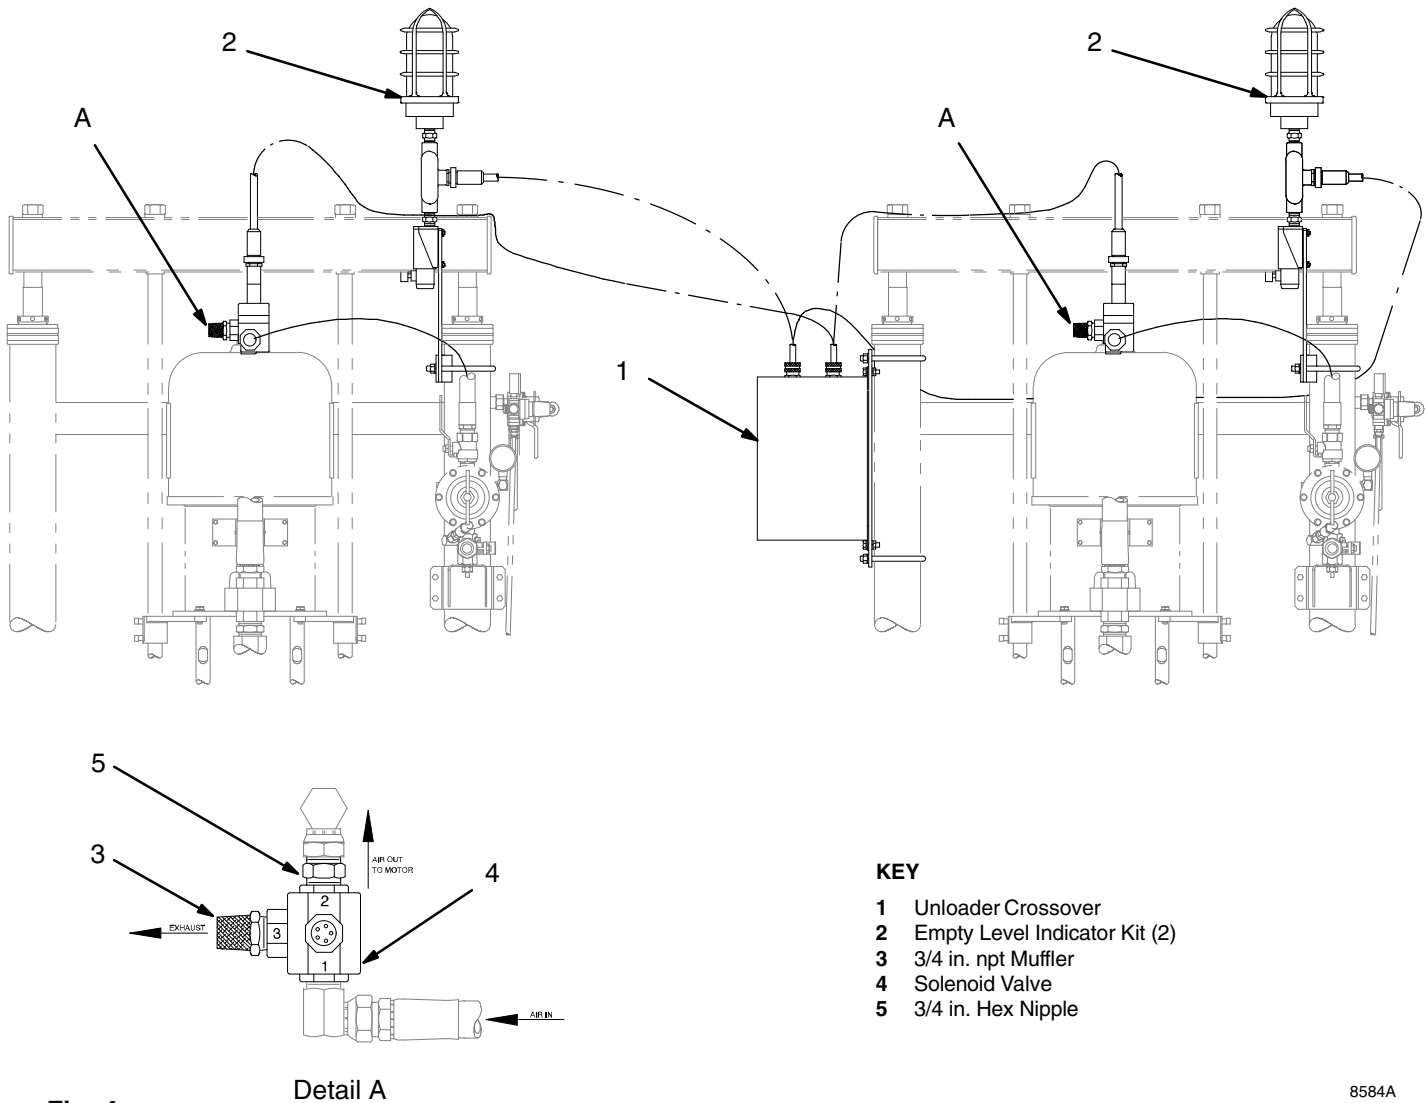

Fig. 4
The electrical crossover is setup as shown in Fig. 4 and the Unloader Crossover (1) must be connected to a 120 Volt, 60 Hz supply.
The position of the empty level indicator kit (2) on the ram determines when the ram air motor is turned on and off. During operation, this position can be adjusted as desired. See Fig. 4.